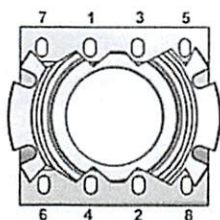
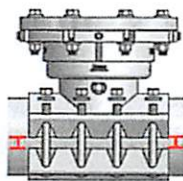

Figure 4
Figure 5
8. Using a torque wrench, tighten bolts in proper sequence (See Figure 4). Ensure gaps between top half and bottom half of the line stop fitting are the same front to back and side to side (within 1/8") (See Figure 5). After bolts have been tightened to recommended torque wait 10 minutes to allow the gasket to fully seat and re-tighten bolts to recommended torque.